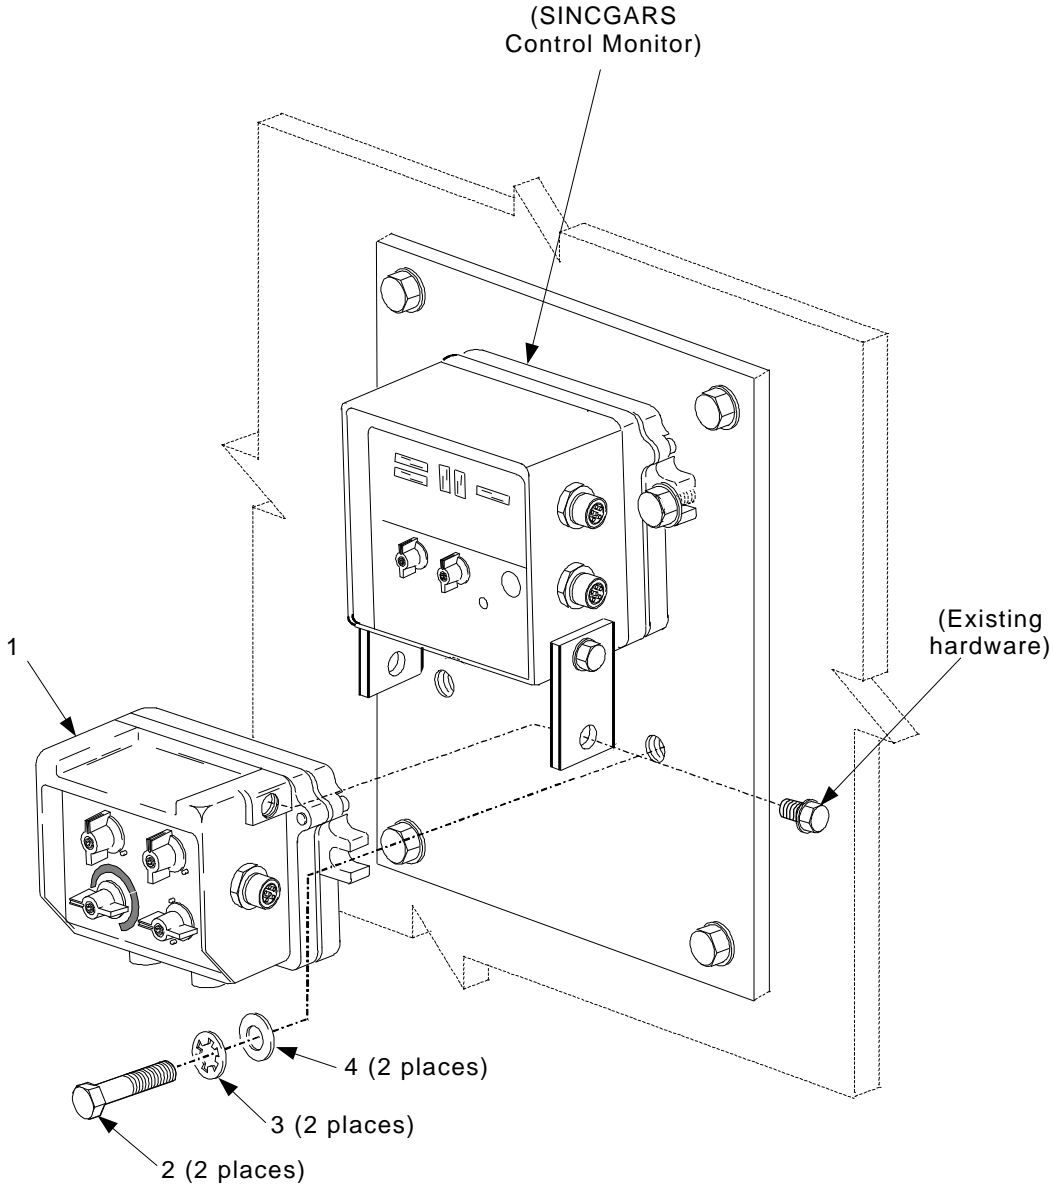

Figure 4-6. Commander's FFCS Installation
Install and secure the Commander's FFCS (1) on the existing bracket on the curbside wall in the sequence(s) shown in Figures 4-6 using the parts listed in Table 4-4 and the following tools:
Secure Commander's FFCS (1) to side tabs of SINCGARS Control-Monitor as shown in Figure 4-6 using existing hardware and the following tools.